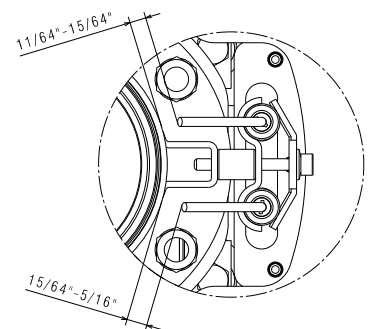

Fig. 14
Before installing the burner on the boiler, make sure the probe and electrode are positioned correctly as in Fig. 14.
electrode tips (Fig. 14).
- Before installing the burner on the boiler, check through the blast tube opening to make sure that the flame sensor probe and the ignition electrodes are correctly set in position, as shown in Fig. 14.